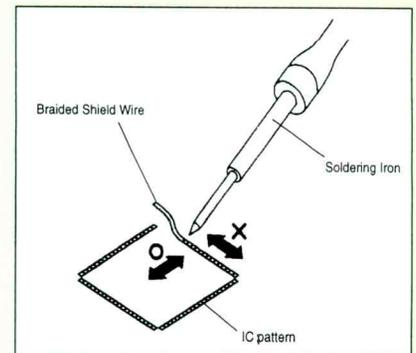

Figure 4.
5. Absorb the solder left on the pattern using the braided shield wire (Figure 4). Note: Do not move the solder braid in the vertical direction toward the IC pattern.